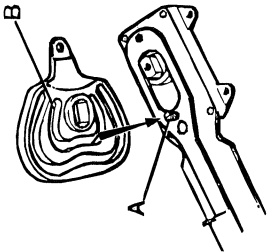

Fig. 4
- Turn the throttle lever 180°, and refit. Note that at pushing throttle the roller (A fig. 4) must be in the inner groove ( B fig. 4).